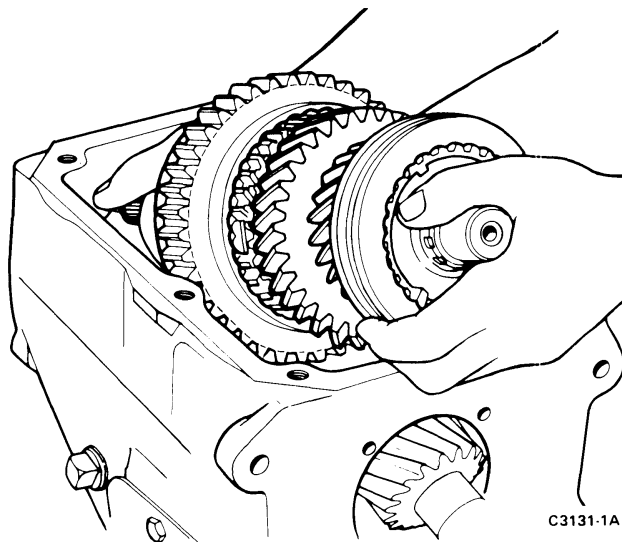

FIG. 9 Removing Output Shaft Assembly
11. Remove the output shaft assembly from the case (Fig. 9).